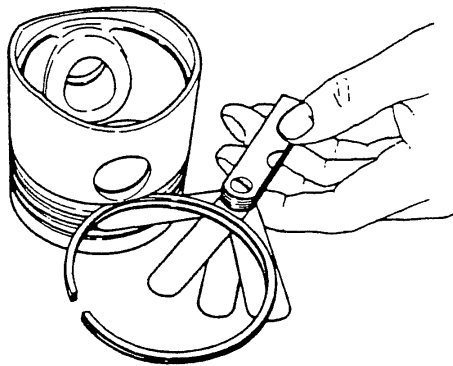

Figure 4. Piston Ring and Groove Clearance Measurement.
6. Measure the piston ring side clearance according to Figure 4 and Table 2. Replace the piston if the clearance exceeds the service limit.